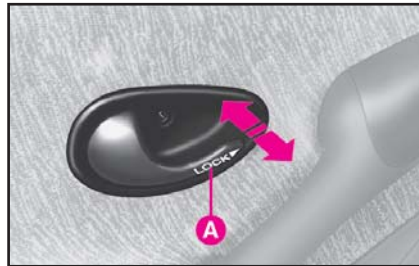

fig. 26
- With doors closed, press (to lock) or pull (to unlock) one of the levers on the front doors (**fig. 26**).